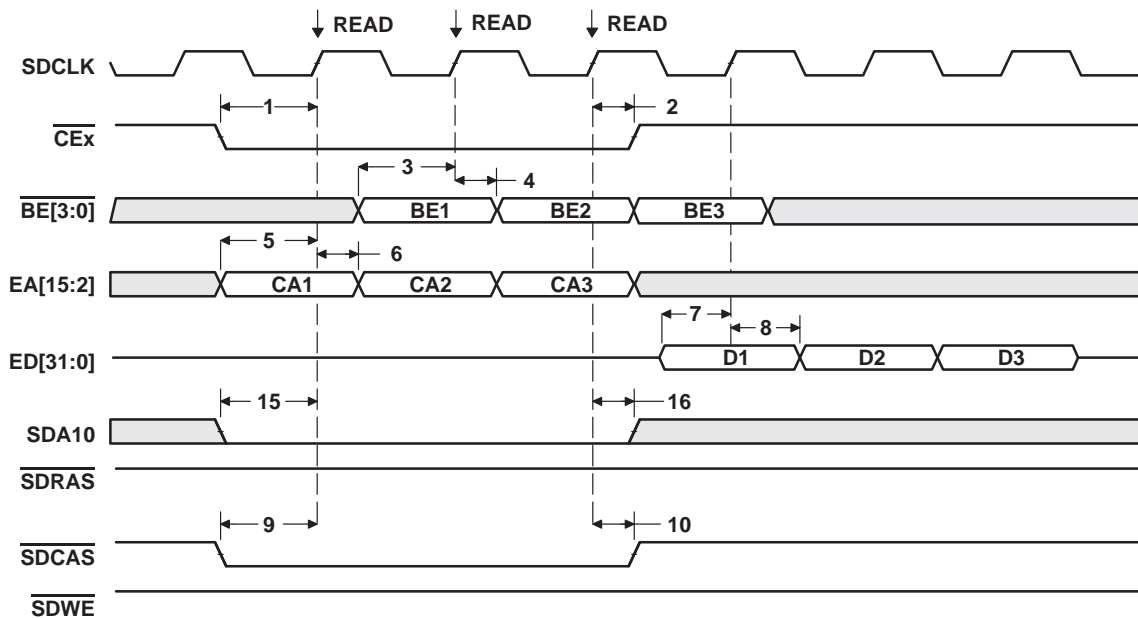
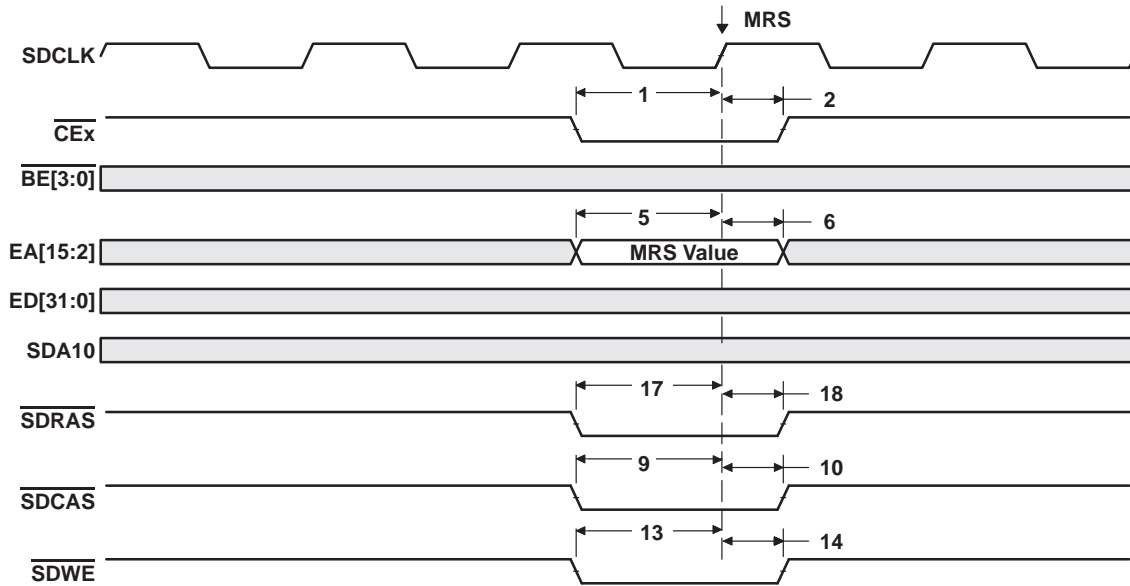

Figure 19. Three SDRAM Read Commands
Figure 24. SDRAM MRS Command
**timing requirements for synchronous DRAM cycles (see Figure 19) ('C6201)**
**switching characteristics for synchronous DRAM cycles† (see Figure 19–Figure 24) ('C6201)**
### timing requirements for synchronous DRAM cycles (see Figure 19) ('C6201B)
### switching characteristics for synchronous DRAM cycles† (see Figure 19–Figure 24) ('C6201B)